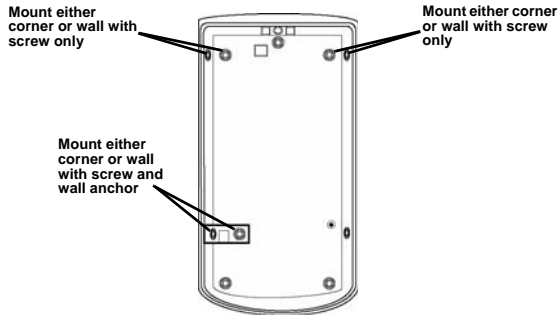

Figure 3 EN1240 mounting back plate
a. If using the wall tamper function for increased security, mount the housing back plate per Figure 3, ensuring the tamper switch is depressed.